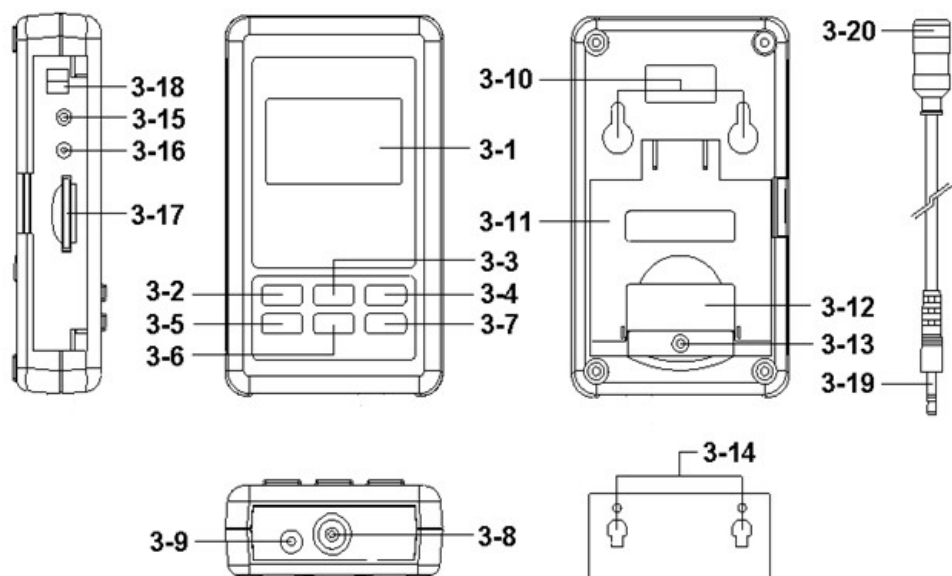

Fig. 1
- 1) Power ON the meter by pressing and holding the " Power Button " ( 3-2, Fig. 1 )for at least 1.5 seconds, the meter's default function is " A"( frequency weighting) , " Fast"( time weighting) " Auto range ". The LCD display will show the Symbol " A, FAST , xx.x dB ".
Use the " ▲ Button " ( 3-3, Fig. 1 ) to select the Sound Measurement Range shown (AUTO , 30 - 80 , 50 - 100 , 80 - 130 ,AUTO) reading in the center of the range. If dashes appear on the display select a new range , After power on the default range is " Auto range " In the same time the LCD display will show the text of " AUTO " Under the auto range.
How to select the frequency weighting ( A or C), by pressing and holding the " ▼ Button " ( 3-6, Fig. 1 ) for at least 2 seconds to select A or C Frequency weighting .
According to various measuring sound source, by pressing the "▼ ( Time Weighting) Button " ( 3-6, Fig. 1 ) once to select the Time Weighting ( Fast or Slow or PEAK Fast ) .
During the SPL measurement, pressing and holding the " HOLD Button " ( 3-4, Fig. 1 ) for at least 2 seconds will hold the measured value & the LCD will display a " HOLD " symbol. pressing and holding the " Hold Button " for at least 2 seconds again will leave the data hold function.
- 1) The data record function records the maximum and minimum readings. Press the " REC Button " ( 3-4, Fig.1 ) once to start the Data Record function and display is shown the " REC " symbol .
- a) Press the " REC Button " ( 3-4, Fig. 1 ) once, the " REC MAX " symbol along with the maximum value will appear on the display. Press the " REC Button" again the " REC MIN " symbol along with the minimum value will appear on the display. Press the " REC Button" again will show the " REC " symbol only & execute the memory function continuously.
After power ON, the " LCD Backlight " will light automatically. During the measurement, press the " POWER Button " ( 3-2, Fig. 1 ) once will turn off the " LCD Backlight ".
During the measurement, press the " Time Button " ( 3-5, Fig. 1 ) once display will show Year/Month/Date, Hour/Minute/Second and sampling time information.
Connect another mA meter into the SOUND LEVER DATA RECORDER ( 3-18 Fig1 4-20 mA Output Terminal) socket ,the recorder will be output 4-20 mA analog signal .
Prepare a " SD memory card " ( 1 GB to 16 GB, optional ), insert the SD card into the " SD card socket " ( 3-17, Fig. 1). The front panel of the SD card should face against the left side plastic case.
Pressing and holding the " ENTER Button ( 3-7, Fig. 1 ) > 2 seconds , display is shown " LOGGER " , the " LOGGER " will flashing
During execute the Datalogger function , if press the " ENTER Button " ( 3-7, Fig. 1 ) once will pause the Datalogger function ( stop to save the measuring data into the memory circuit temporality ). In the same time the text of " LOGGER " will stop flashing.
*If press the " ENTER Button " ( 3-7, Fig. 1 ) once again will execute the Datalogger again, the text of " LOGGER " will flashing .*
Press the " ENTER Button "( 3-7, Fig. 1) continuously at least two seconds, the " LOGGER " indicator will be disappeared and finish the Datalogger.
( 3-5, Fig. 1 ) once, the LCD display will